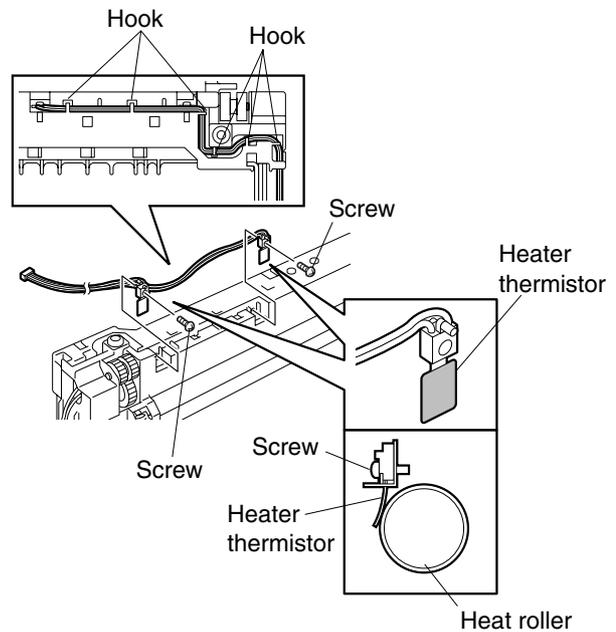

Fig. 14-7-2
2. Remove heater thermistor. (See Fig. 14-7-2)
- Remove heater thermistor. (See Fig. 14-7-2)